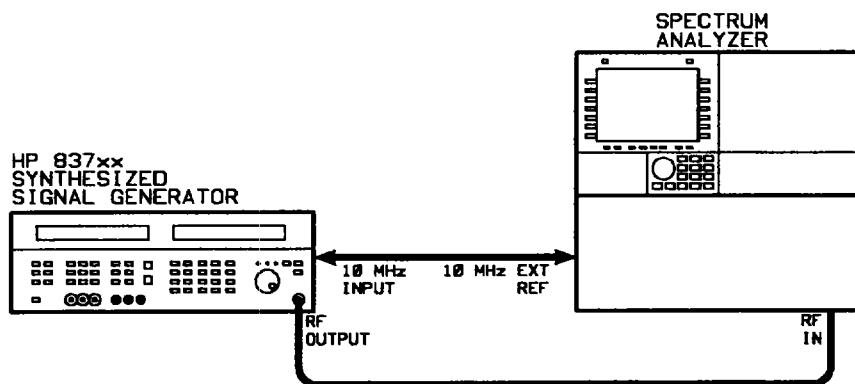

Figure 3-26. Internal AM Rate Test Setup
4. Connect the equipment as shown in Figure 3-26.